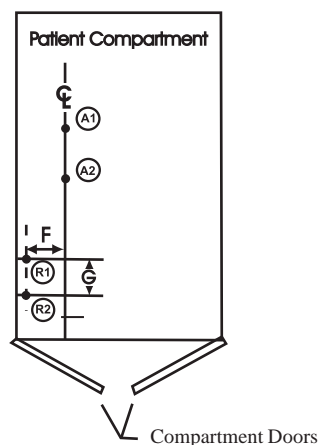

Figure 11 - Measurement F and Point 4
- Starting from the new mark on the Centerline made in Step 3, use a framing square or carpenter's square to measure perpendicular to the Centerline toward the wall and mark a new point for Measurement **F**. Label this point as Rail Point R2 (Figure 11).